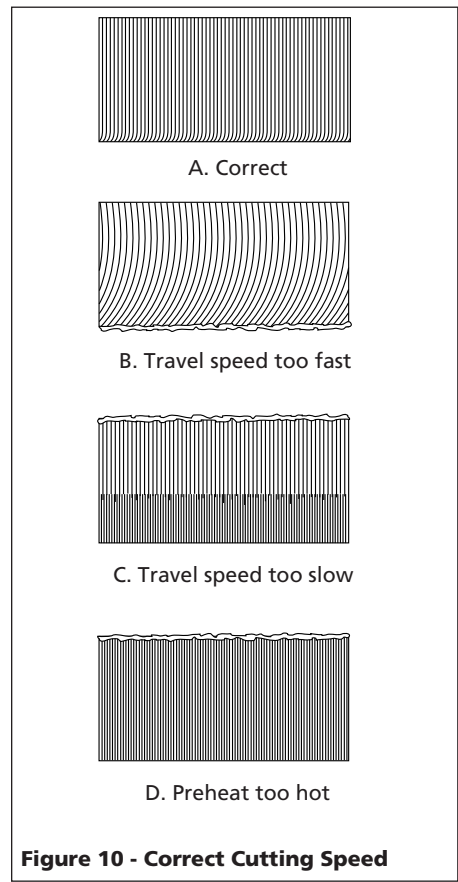

Figure 10 - Correct Cutting Speed
7. Compare cut edge with Figure 10 to correct subsequent cuts.